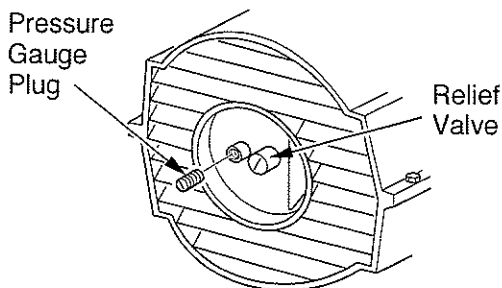

Figure 16 - Pressure Gauge Plug Removal (40/55/60/70 Models Shown)
- Remove pressure gauge plug from filter end cover (see Figure 16).